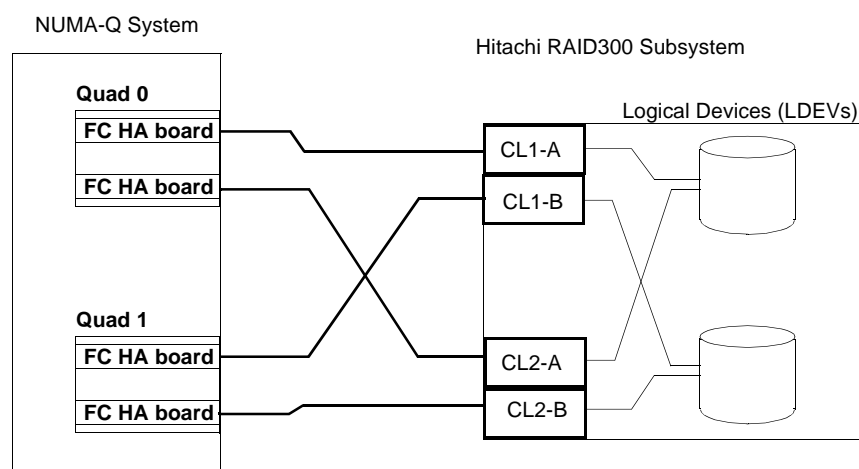

Figure 6-3.
- Figure 6-3 shows cabling for a typical direct connect arbitrated loop (FC-AL) Fibre Channel connection to an IBM NUMA-Q host system.